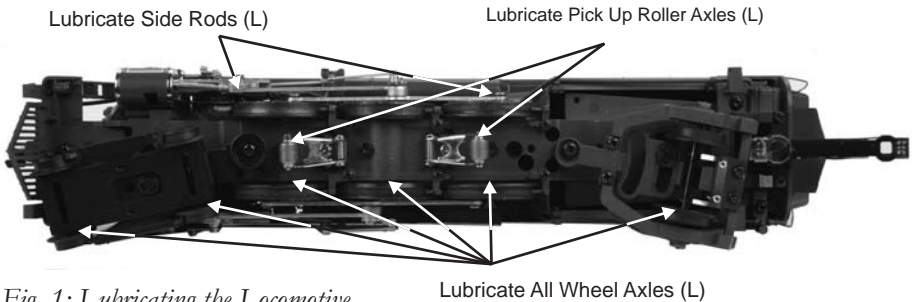

Fig. 1: Lubricating the Locomotive
You should lubricate the engine to prevent it from squeaking. Use light household oil and follow the lubrication points marked “L” in Fig. 1. Do not over-oil. Use only a drop on each pivot point.
1. Remove the center rail pickup roller assemblies as seen in figure 1 (page 3).